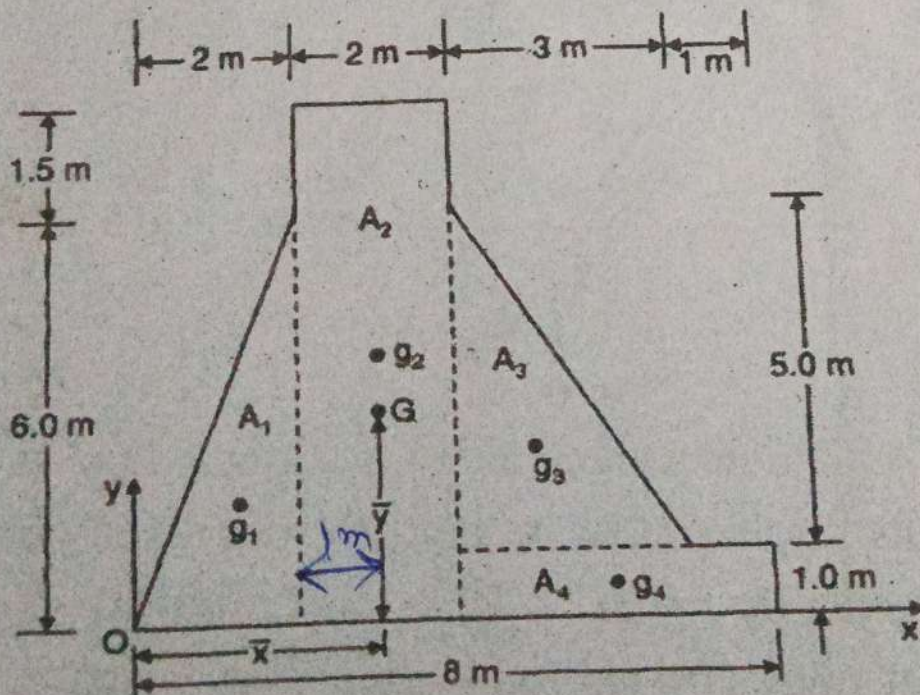

Fig. 3
7. Determine the centroid of the section of the concrete dam shown in Fig. 3.